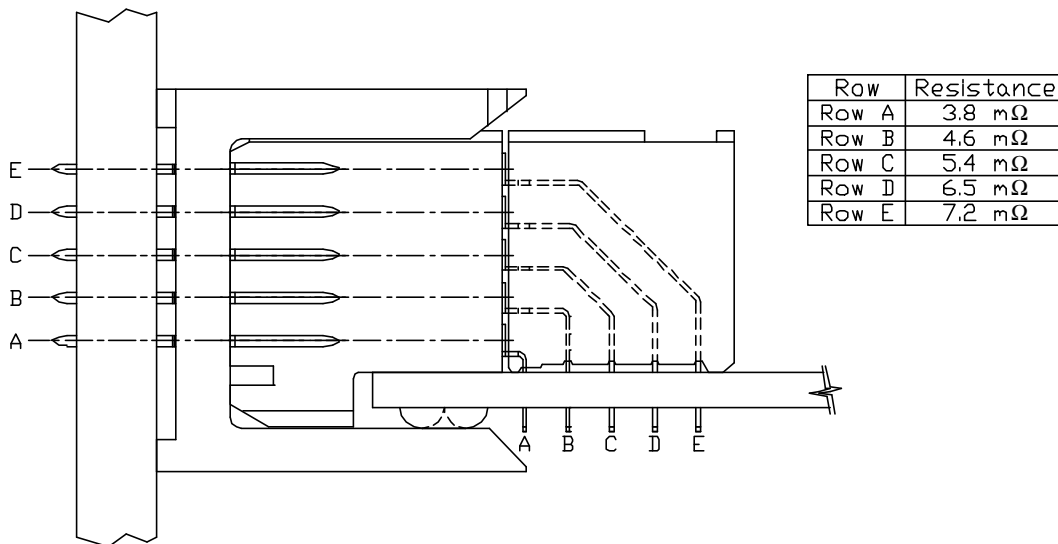

Figure 8- Mated header and receptacle showing maximum bulk resistance per row. (5-row shown)
- The bulk resistance will vary from row to row. The maximum bulk resistance is 10 mW/contact. The typical values of bulk resistance is given in the table in Figure 8.